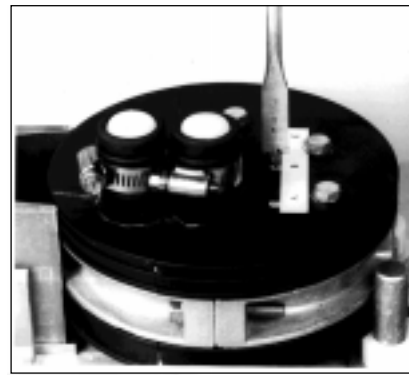

FIGURE 11 - BLADE POSITIONED
- Then, tighten the clamp screw and thumb screws on the bearing block. (Figure 11)